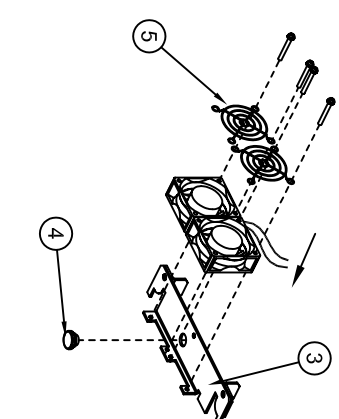

FIGURE 3-2
- 3) REMOVE FANS FROM FAN BRACKET. FANS ARE HELD TO BRACKET BY SNAP FIT. -SEE FIGURE 3-2